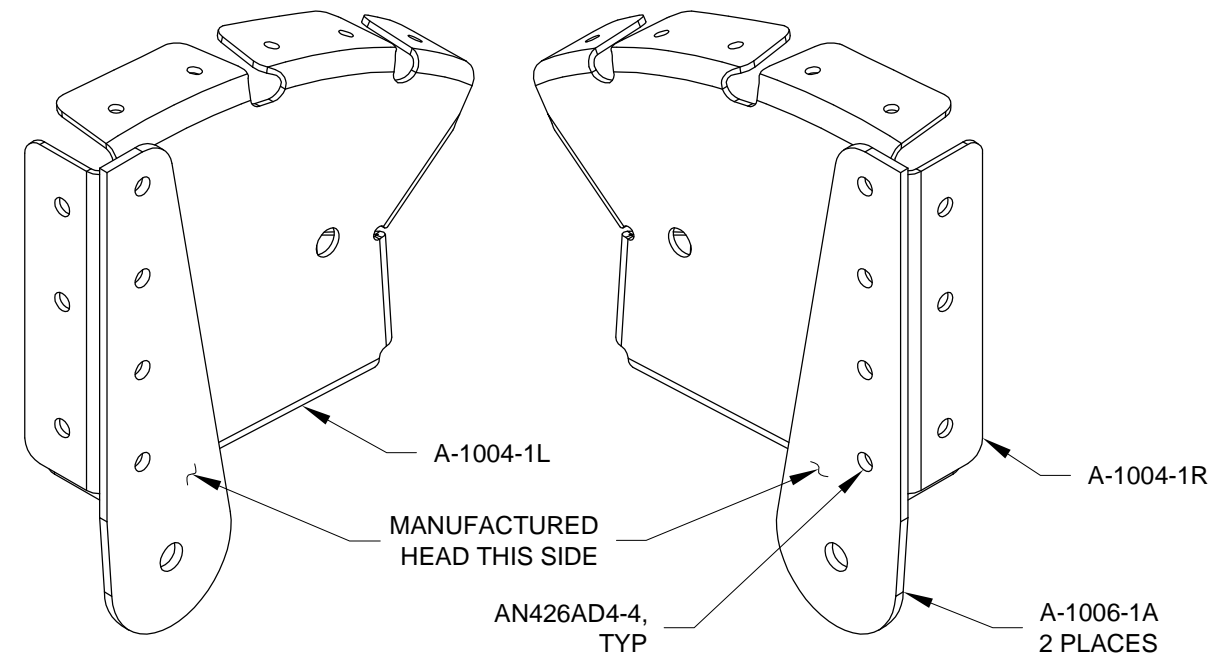

FIGURE 3: OUTBOARD HINGE BRACKET TO NOSE RIB INSTALLATION
Step 4: Final-Drill #30 the .129 [3.3 mm] holes common to the A-1006-1A Outboard Hinge Brackets and the A-1004-1R and A-1004-1L Nose Ribs. Machine countersink the outboard hinge brackets for the head of a AN426AD4 rivet as shown in Figure 3. Deburr the outboard hinge brackets and the A-1004-1R and A-1004-1L Nose Ribs.
Step 6: Rivet the A-1006-1A Outboard Hinge Brackets to the A-1004-1R and A-1004-1L Nose Ribs as shown in Figure 3.